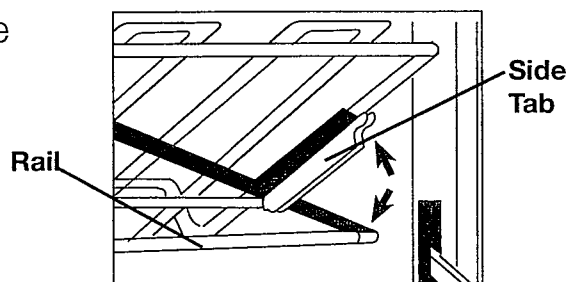
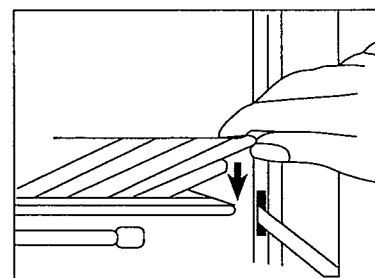

FIGURE 1
FIGURE 2
1. To “lock” in the Wire Rack, place the side tab against the rear rail. (See Figure 1.) Then press the Wire Rack down on the front rail to secure in place. (See Figure 2.)\*